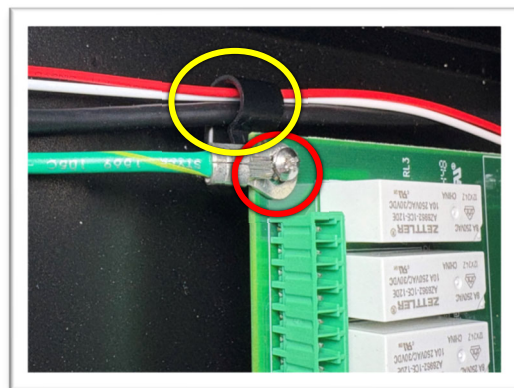

Figure 2.21
32) Run two cables (red/white printer power cable and black mini-USB printer cable) together through the second black cable clamp, as depicted. (See Figure 2.21; yellow)
33) Using one (1) 4-40 (SAE) screw, secure the black cable clamp (with the red/white printer power cable and the black mini-USB printer cable together) **under** the upper-left corner of the MCU board, along with the green earth ground cable **above** the board, as illustrated. (See Figure 2.21; red)